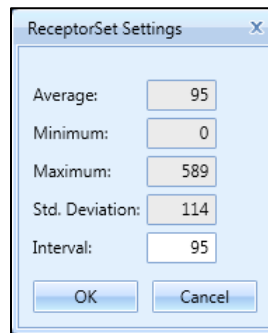

Figure 5-23 Receptor Set Settings Dialog
- For metric results processed with the Number Above Noise Level option, the *Receptor Set Settings* dialog is displayed (Figure 5-23).